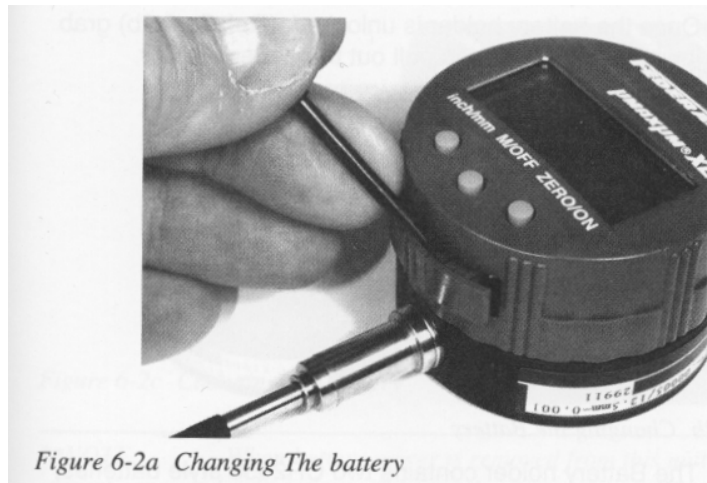

Figure 6-2a Changing The battery
- 1) Using a small screw driver (Ref: fig 6-2a) carefully slide the blade into the opening and release the battery holder from its locked position.